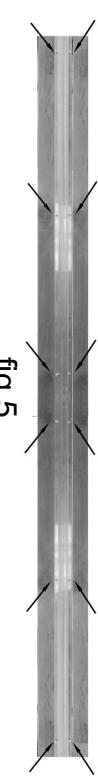

fig 4
Step 4: Mount rail to board. All rail mounting points need to be used to secure rail to mounting board. (Fig 4 and 5)